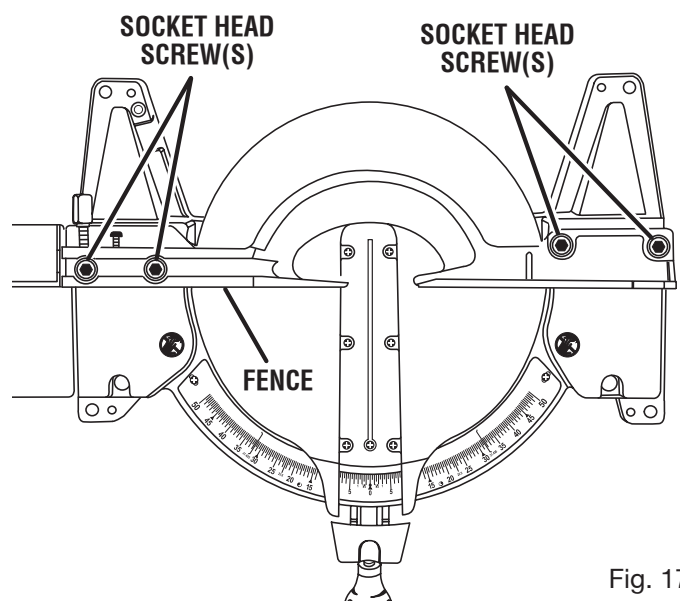

Fig. 17
See Figures 17 - 21
- Loosen the socket head screws that secure the miter fence to the miter table. *See Figure 17.*